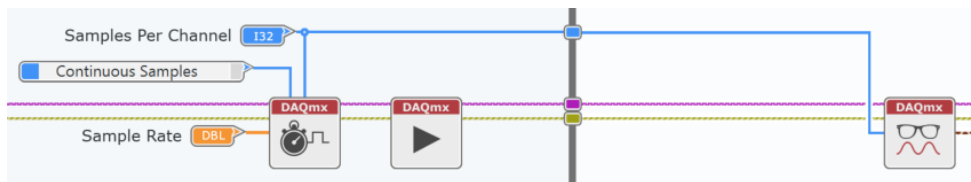

Figure 7-29 You should specify the samples per channel to both the DAQmx Configure Timing VI and the DAQmx Read VI.
- By default, the DAQmx Read function will acquire any and all available samples per channel. A good practice is to set DAQmx Read to read the same number of channels that are being written to the hardware buffer, as specified at the DAQmx Configure Timing VI. The easiest way to achieve this is to branch a wire from the **Samples Per Channel** control and connect it to the **number of samples per channel** input of DAQmx Read, as shown in Figure 7-29.